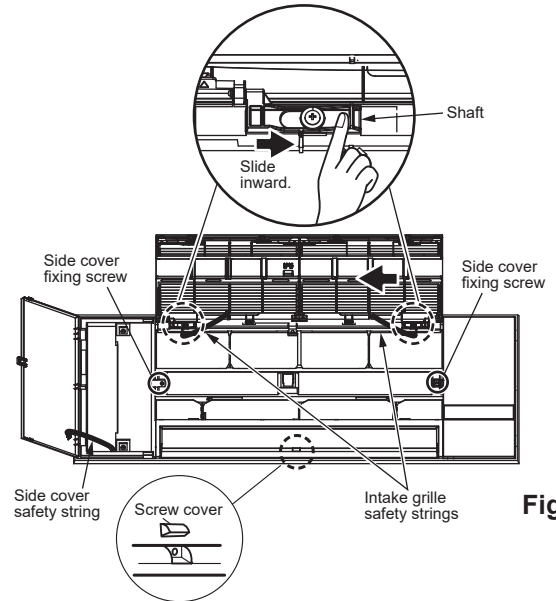

Fig. 3
Slide the 2 shafts inward and remove the intake grille from the shafts. (Fig. 3)
Remove the safety strings from the grille and remove the intake grille. (Fig. 3)
Open the side covers L/R and remove the safety strings from the grille, then remove the side covers. (Fig. 3)
3. Remove the screw cover at the center of the grille. (Fig. 3)